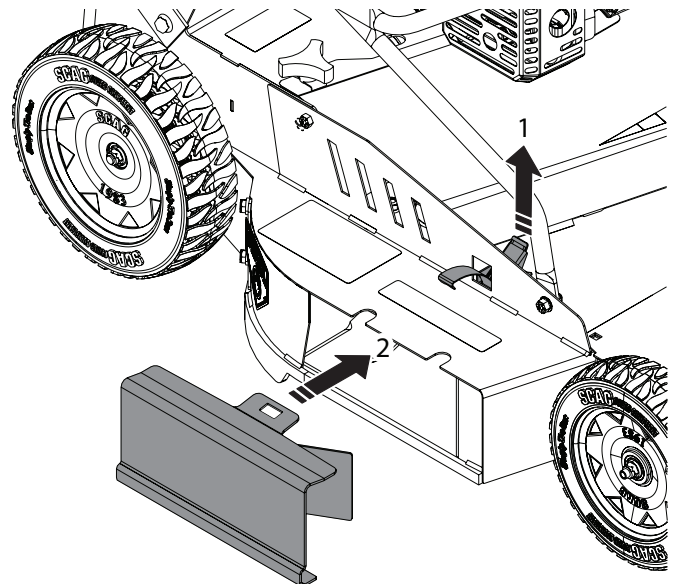

Figure 6-15. Discharge Block Off Plate
3. The discharge block off plate will need to be installed. See Figure 6-15.